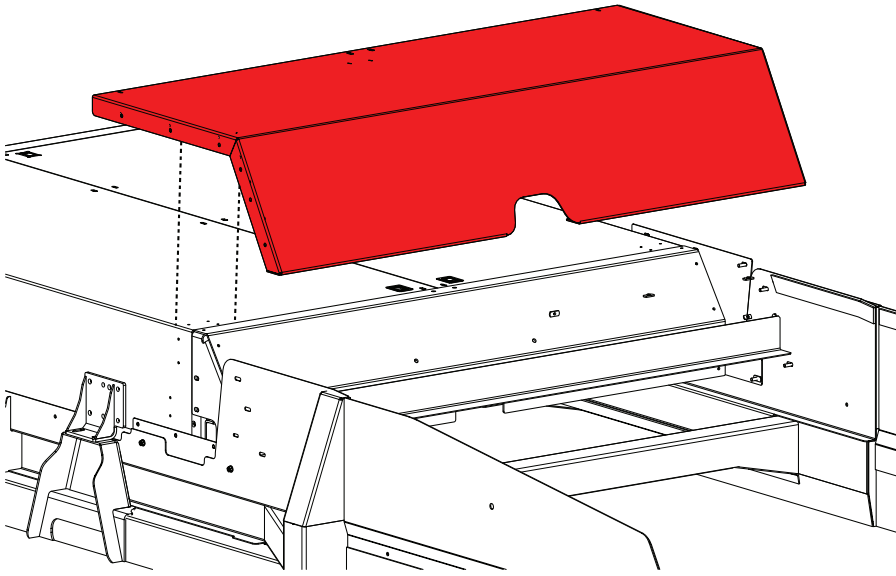

Figure 3
8. Attach the slings and overhead crane to the refuse deflector weldment cover piece (Figure 3) (PN 1572662).
9. Move the refuse deflector weldment cover piece into position at the roof mounted CNG system and line up the refuse deflector weldment cover piece so that you can install bolts in the three diagonal bolt slots on either side of the vehicle (Figure 3).